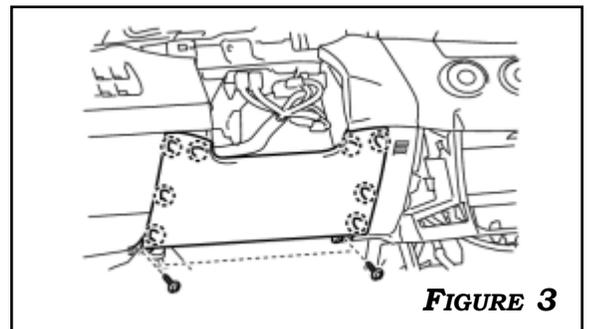

FIGURE 3
3. REMOVE THE 2 SCREWS WITH A SCREWDRIVER, AND DETACH THE 8 CLAWS TO REMOVE THE LOWER INSTRUMENT PANEL FINISH PANEL. **FIGURE 3**